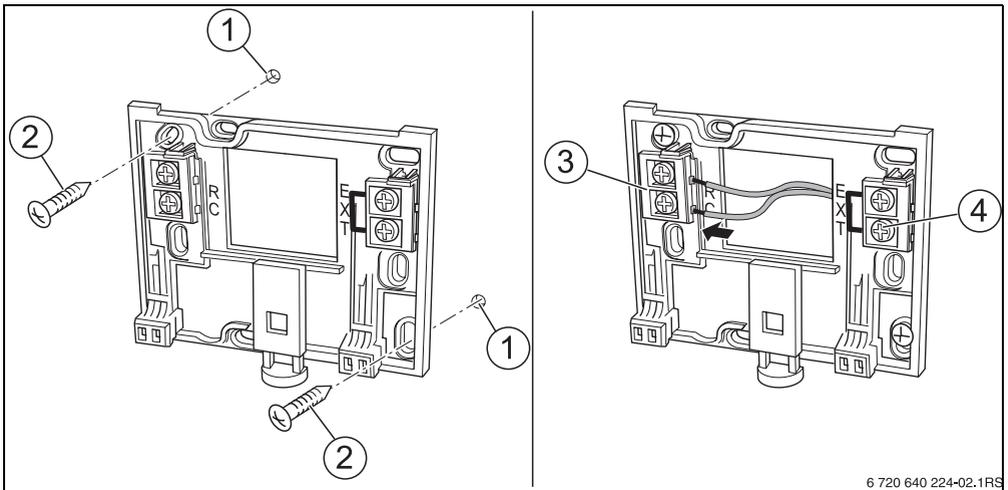

Fig. 3 Mounting the wall bracket (left) and connecting the wires (right)
- ▶ Mount the wall bracket (→ Fig. 3, left).
- ▶ Connect the two-wire bus cable from the Energy Management System (EMS) to the “RC” cable terminals (→ Fig. 3, [3]).
- ▶ If the RC35 is operated without an external room sensor, a jumper is needed on the “EXT” terminals (→ Fig. 3, [4]) (the jumper is factory-installed).